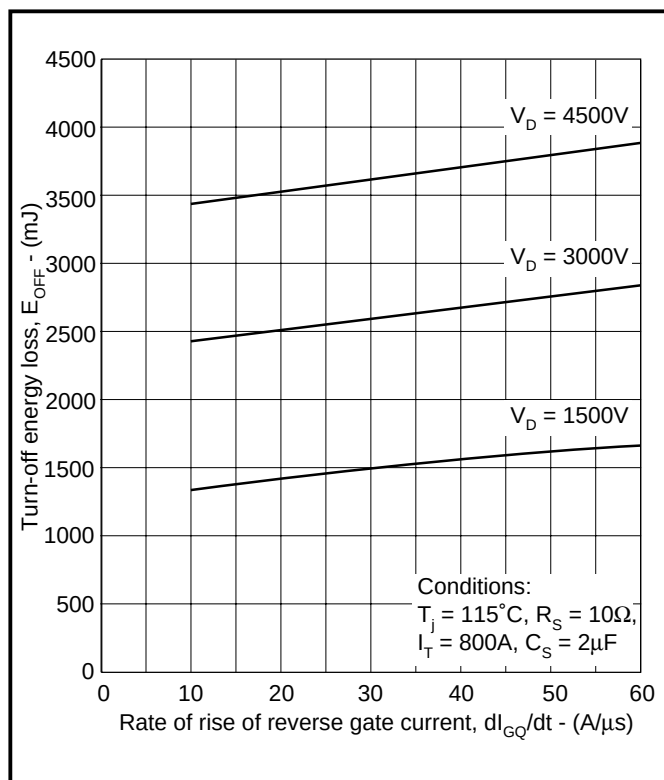

Fig. 5 Turn-off energy vs rate of rise of reverse gate current
1. Figure 5 shows the increase in turn-off switching loss with dI_g/dt . However, at high dI_g/dt values, above about 50A/ μ s, the rate of increase is low so the loss penalty for using high dI_g/dt values is small.